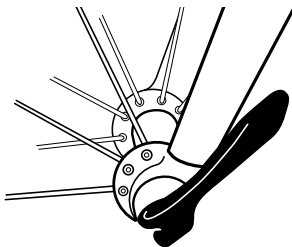
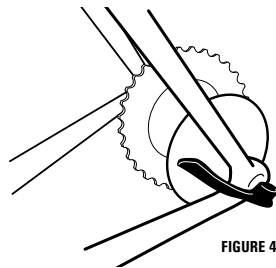

FIGURE 3
FIGURE 4
4. Place the quick release lever in the palm of your hand and move the lever fully into the CLOSED position. [see figure 3 for front wheels, figure 4 for rear wheels]. At the half way closed position you should feel resistance to this motion.
6. Orient the quick release levers so they do not interfere with any other part or accessory, such as rack or fenders. Be sure to orient the quick release levers in such a way that they will not become accidentally snagged by obstacles in the path of the bicycle. [fig 3, 4].